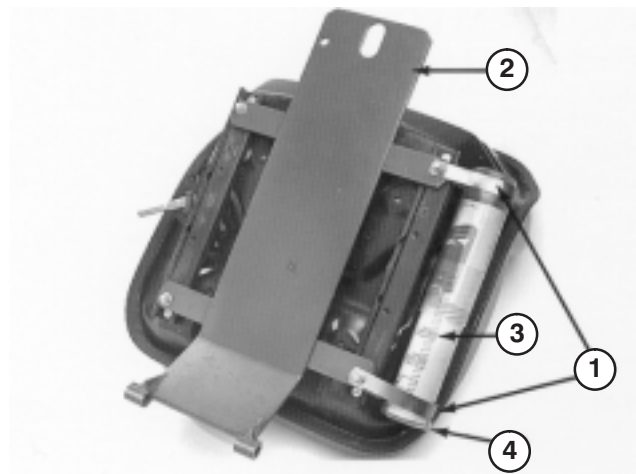

Figure 4
1. Loosely secure (2) R-clamps to right side of seat bottom with 2 capscrews and flat washers supplied in kit (Fig. 4). Install manual tube into R-clamps and tighten capscrews (Fig. 4).